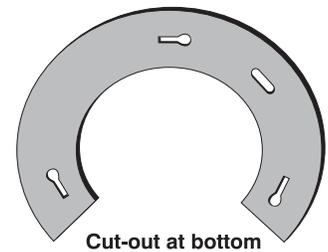

Figure 4.13. Orientation
- See Figure 4.13. Align the large cut-out area on the lens flange to the **bottom** of the lens mount (which has a matching cut-out). The 3 lens assembly slots should align with the lens mount screws so that the screw heads will fit through the large end of the slots.